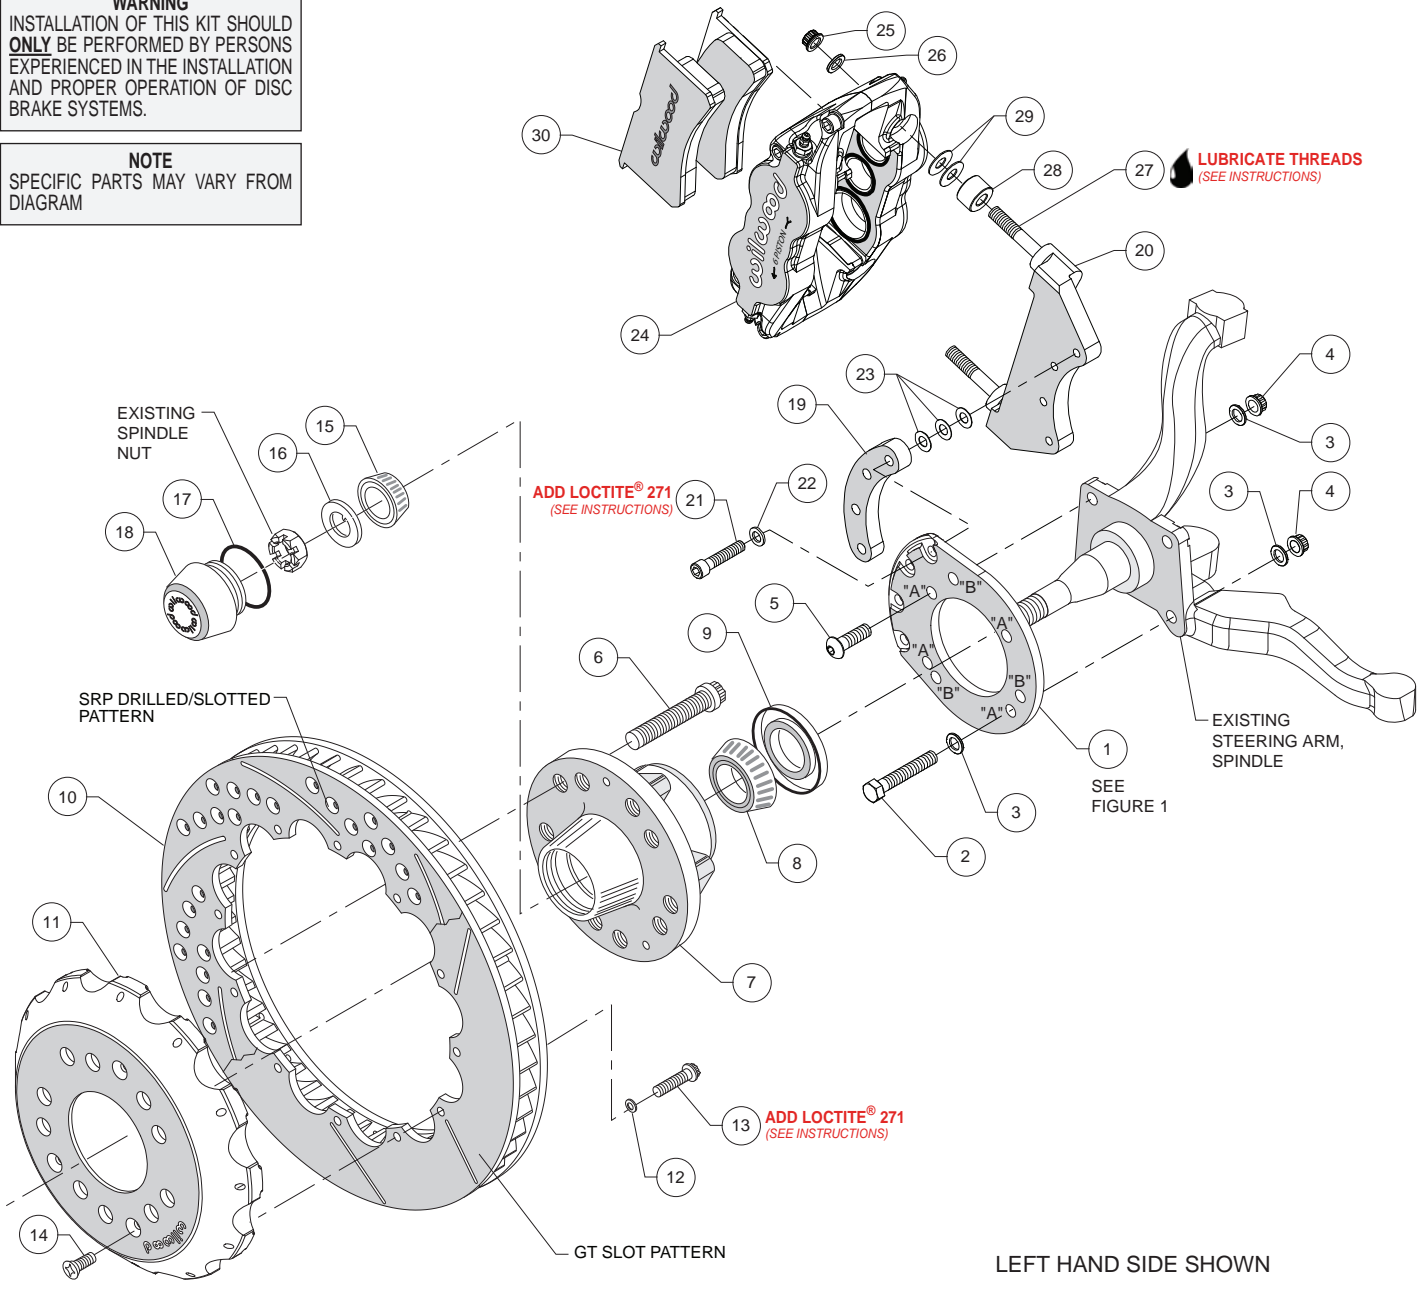

Figure 2. Typical Installation Configuration
**Assembly Instructions** (numbers in parenthesis refer to the parts list and Figure 2 on the preceding pages):
•Align bracket, using the four "A" holes, to the face of the spindle and attach using bolts (2 and 5), washers (3), and lock nuts (4), as shown in Figure 2 and Photo 1. Temporarily tighten the mounting bolts. **NOTE:** The bracket must fit squarely against the mounting points on the spindle. Inspect for interference from casting irregularities, machining ridges, burrs, etc. Torque lock nuts (4) to 25 ft-lb.
•Orient the rotor (10) and the hat (11) as shown in Figure 2 and Photo 6. Attach rotor to hat using bolts (13) and washers (12). Using an alternating sequence, apply red Loctite® 271 to the
- Slide the hat/rotor assembly (10 and 11) onto the hub (7) taking care to align the small countersunk holes in the hat with the small threaded holes in the hub (7). **NOTE:** The hat must fit flush against the hub face or excessive rotor run out may result. Install three flat head screws (14) through the small holes in the hat, Photo 5, and torque to 85 in-lb.
- Attach the caliper mounting bracket (20) to the spindle bracket (1) using bolts (21), washers (22), and spacer (19) as shown in Figure 2 and Photo 7. Initially place three .015" thick shims (23) on each bolt between the spacer and the caliper bracket. Temporarily tighten the mounting bolts. Later, after the caliper alignment has been checked, the mount bolts will be secured using red *Loctite*® 271.
- **NOTE:** This kit contains distinct right and left hand calipers that must be mounted in a specific direction, as described below. Lubricate the caliper mounting studs (27) with lightweight oil. Initially place two .035" thick shims (29) and spacer (28) on each stud between the caliper and the bracket, as shown in Figure 2 and Photo 8. Mount the caliper (24) onto the bracket (20) using lock nuts (25) and washers (26), Figure 2. Ensure that the caliper is mounted so the largest pistons are at the rotor exit end of the caliper, in relation to the direction of rotor rotation. Temporarily tighten the lock nuts and view the rotor through the top opening of the caliper. The rotor should be centered in the caliper, Photo 9. If not, adjust by adding or subtracting shims (23) between the caliper bracket (20) and the spacer (19). Always use the same amount of shims on each of the four mounting bolts. Once the caliper alignment is correct, remove the bracket mounting bolts one at a time, apply red *Loctite*® 271 to the threads, and torque to 25 ft-lb.